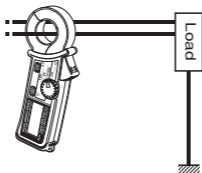

Fig.4 Measuring load current
- (1)Set the Range Selector Switch to the desired position. Current to measure should be within the selected measuring range.
- (2)Measuring load current (See Fig.4):